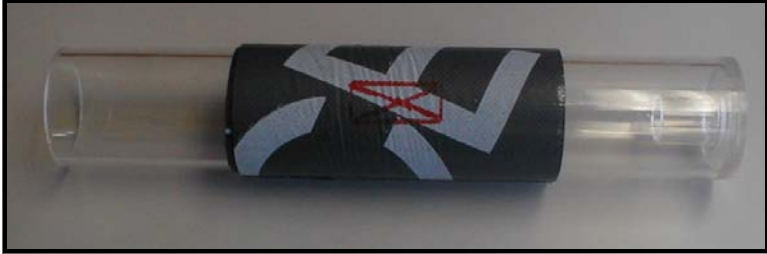

Figure 3-24: DMP-1 Material with Transducer Footprint Traced
7. With a marker, trace around the transducer footprint, as shown in Figure 3-24 below.